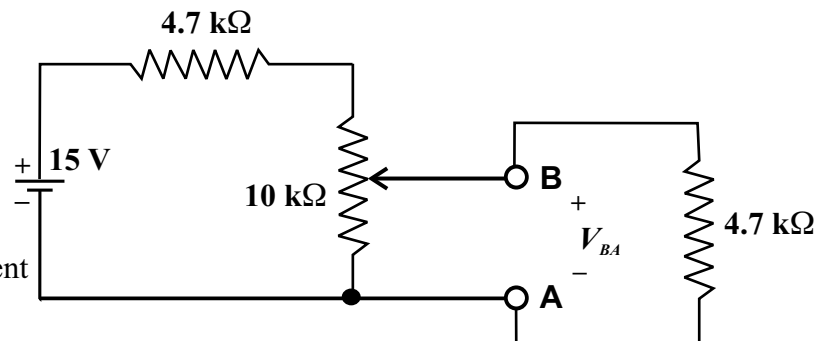

Figure 12 Loaded Potentiometer
- 1) Add the load resistor as shown in Figure 12.